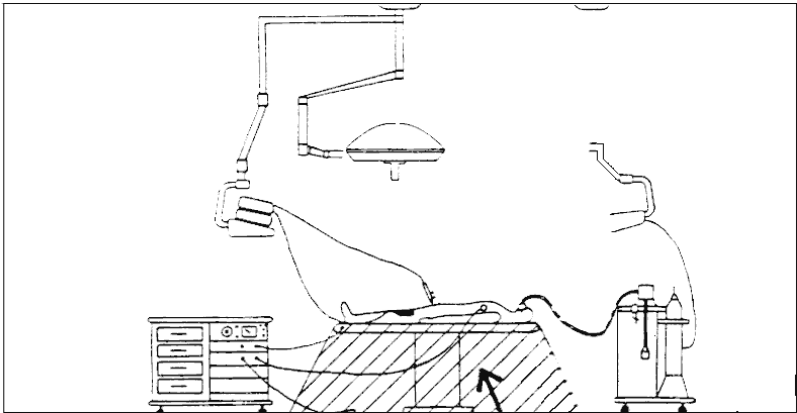

Figure 9: Location that only AP footswitches can be used
- In the event of using the non-AP pedals, do not clean and disinfect them with the explosive substance. Do not use in Medical Zone, i.e. 25-centimeter site where the leakage of combustibile anesthetic gases may occur. Medical Zone is shown in figure 9.